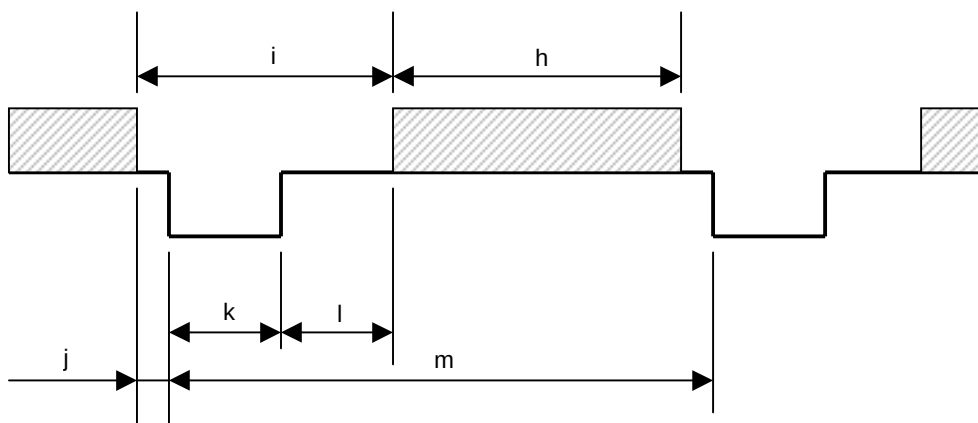

Fig. 6.2 Input Signal Timing
(11) Input signal timing: See below. (Refer to Fig. 6.2.)